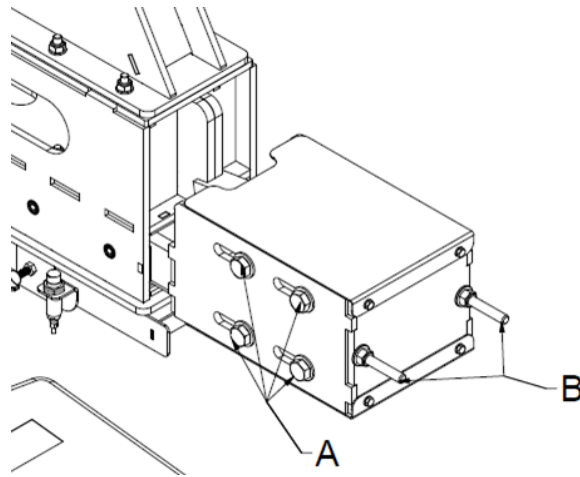

Figure 58 — Adjusting the Pusher Chain Tension
1. Loosen the eight bolts on both sides of the chain box (A, Figure 58).
2. Tighten the two nuts on the tension bolts on the end of the box (B, Figure 58) until the correct tension is reached.
3. Tighten the eight bolts on both sides of the chain box (A, Figure 58).